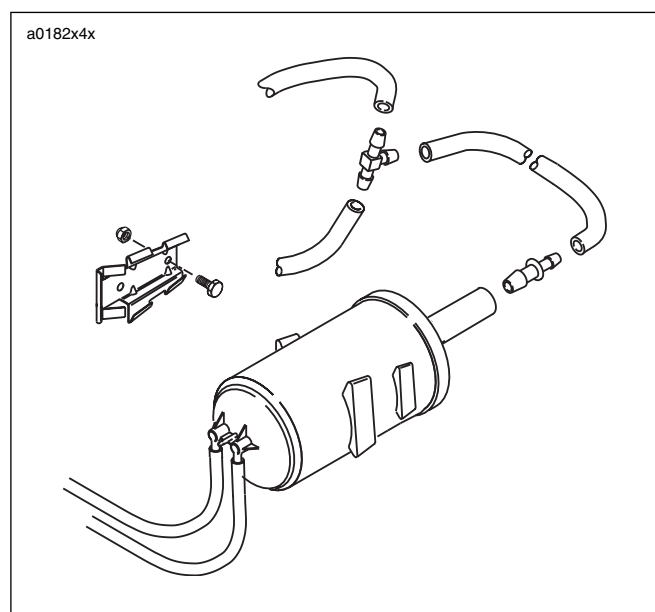

Figure 4-23. Charcoal Canister Assembly
3. See Figure 4-23. Standing on left side of vehicle, pull two vent tubes from fittings at the back of the charcoal canister. For correct assembly, mark tubes to correlate with stamps on canister. Mark one tube "CARB" and the other "TANK."